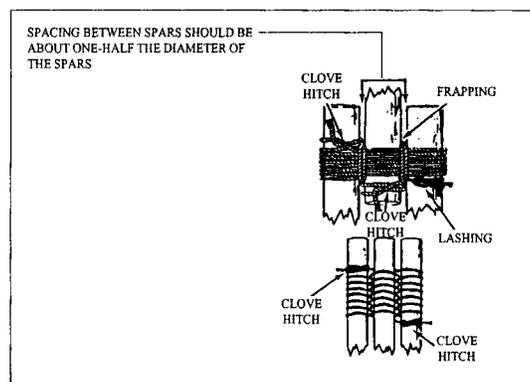

Figure 3-10. Lashing for a tripod
4. Secure the bag to the limb of a tree or use a tripod to set up the bag. See Figure 3-10.